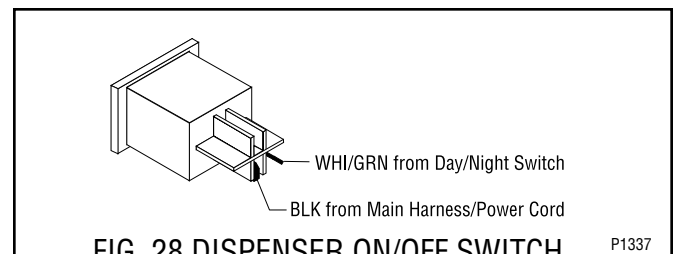

FIG. 28 DISPENSER ON/OFF SWITCH TERMINALS P1337
7. Reconnect the wires to the switch. Refer to Fig. 28 when reconnecting wires.